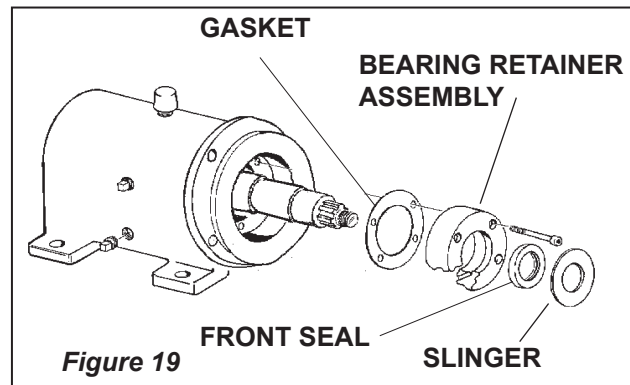

Figure 19
#### Front Seal Replacement (Figure 19)
2. Remove bearing locknut from shaft (counter-clockwise) and press front bearing off. (Fig. 19)